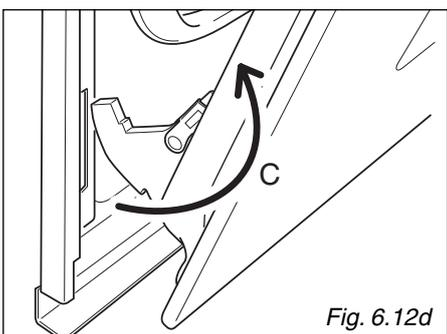

Fig. 6.12d
- Withdraw the hinge hooks from their location following arrow "C" (fig. 6.12d).